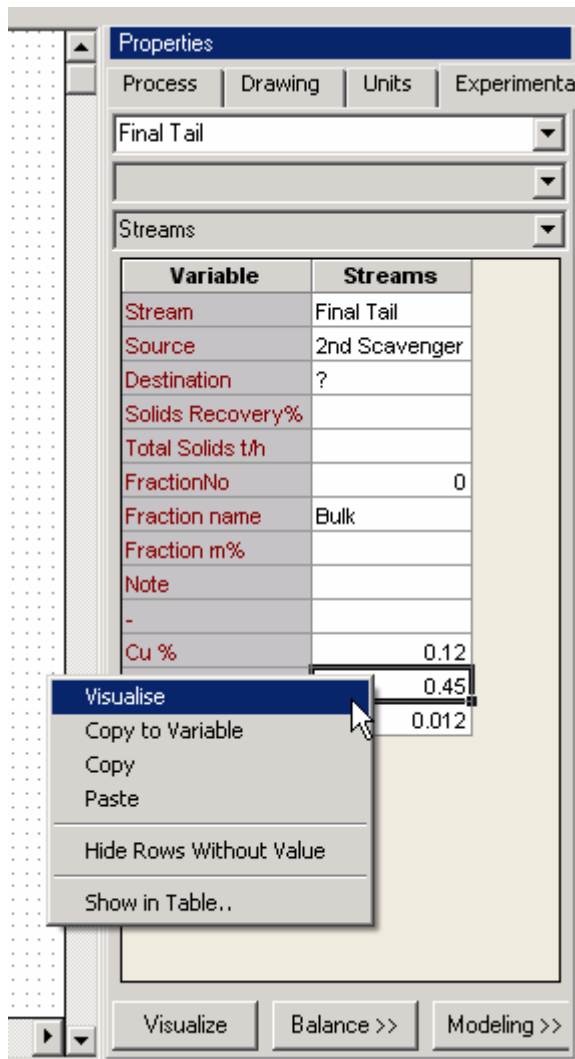

Figure 26. Visualizing a variable with a Sankey diagram from the “Experimental” tab.
- Click the stream and in the "Experimental" tab select the variable and use the right mouse to select "**Visualize**" (Figure 26).